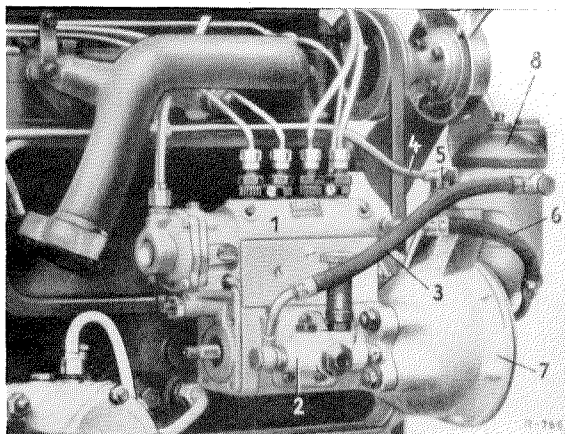

Figure 09-1/1
1. Disconnect the feed hose (3) between the feed pump (2) and the filter (8), the connecting hose (6) between filter (8) and injection pump (1) and the by-pass line (4) at filter (8) and/or at by-pass valve (see Figure 09-1/1).
2. Then remove the fuel main filter (8) from the timing housing cover (7) by unscrewing the two hexagon screws (5) (see Figure 09-1/1).
3. Fix the fuel main filter (8) to the timing housing cover (7) with the two hexagon screws (5) (see Figure 09-1/1).